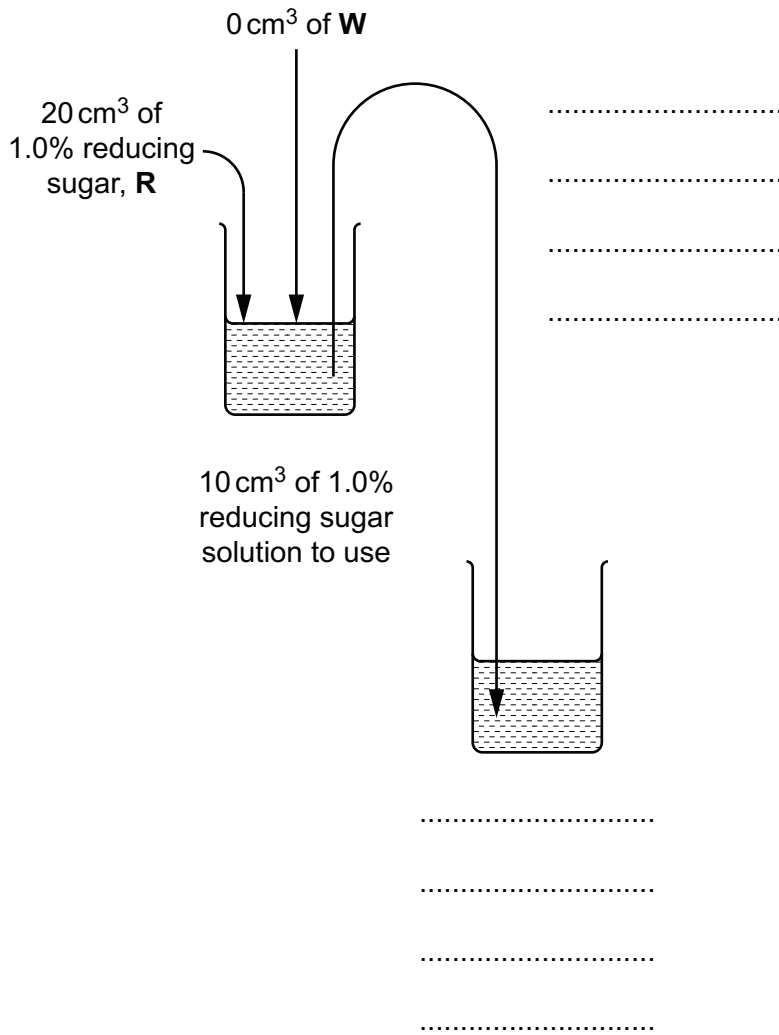

Fig. 1.1
- (i) Complete Fig. 1.1 to show how you will prepare your serial dilution.
Fig. 1.1 shows the first two beakers you will use to make your serial dilution. You will need to draw **three** additional beakers.